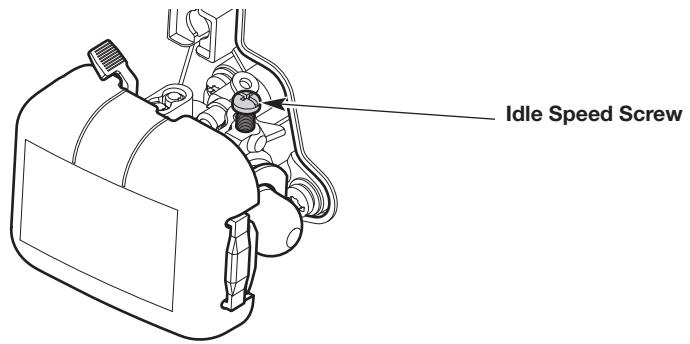

Fig. 8
2. Release the throttle control and let the engine idle. If the engine stops, increase the idle speed. Use a small Phillips screwdriver to turn the idle speed screw clockwise, 1/8 of a turn at a time, until the engine idles smoothly (Fig. 8).